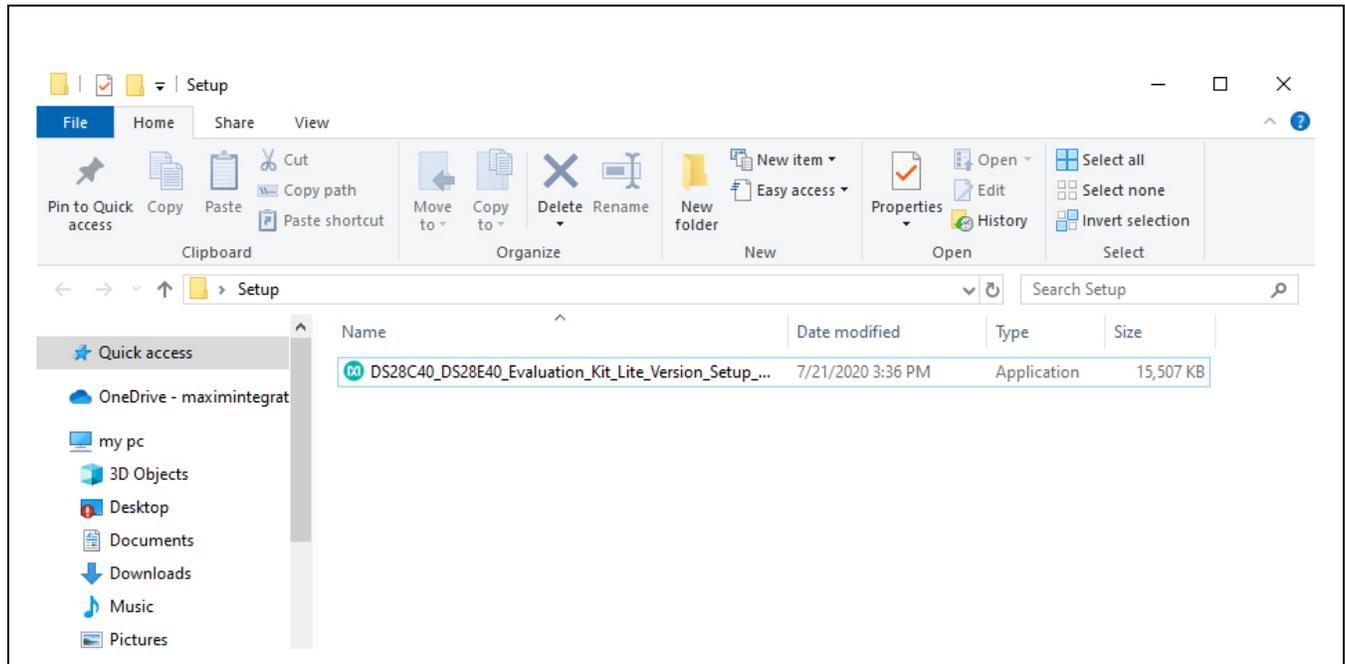

Figure 1. File Viewer
- 2) In a file viewer (Figure 1), double click on the **DS28C40_DS28E40_Evaluation_Kit_Lite_Version_Setup_V2_0_0** file to begin the installation.